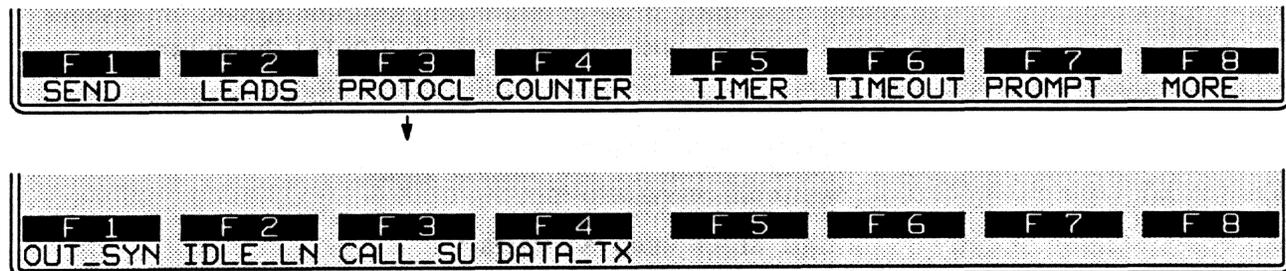

Figure 32-9 The X.21 layer package provides two different “phases” of the transmitter and the receivers, *Call Setup* and *Data Transfer*.
The X.21 layer package provides two different “phases” of the transmitter and the receivers. These phases are called CALL_SETUP and DATA_TRANSFER, and they are entered into the program via softkey in the ACTIONS softkey rack that branches below PROTOCL. See Figure 32-9.
2. *Data transfer.* When you press the softkey for `DATA_TX` (Figure 32-9) or type `DATA_TRANSFER` in an Actions block on the spreadsheet, you are sending the unit into data-transfer phase. In this phase, the unit monitors and sends according to the parameters selected by the user on the Line Setup menu. See Section 4.